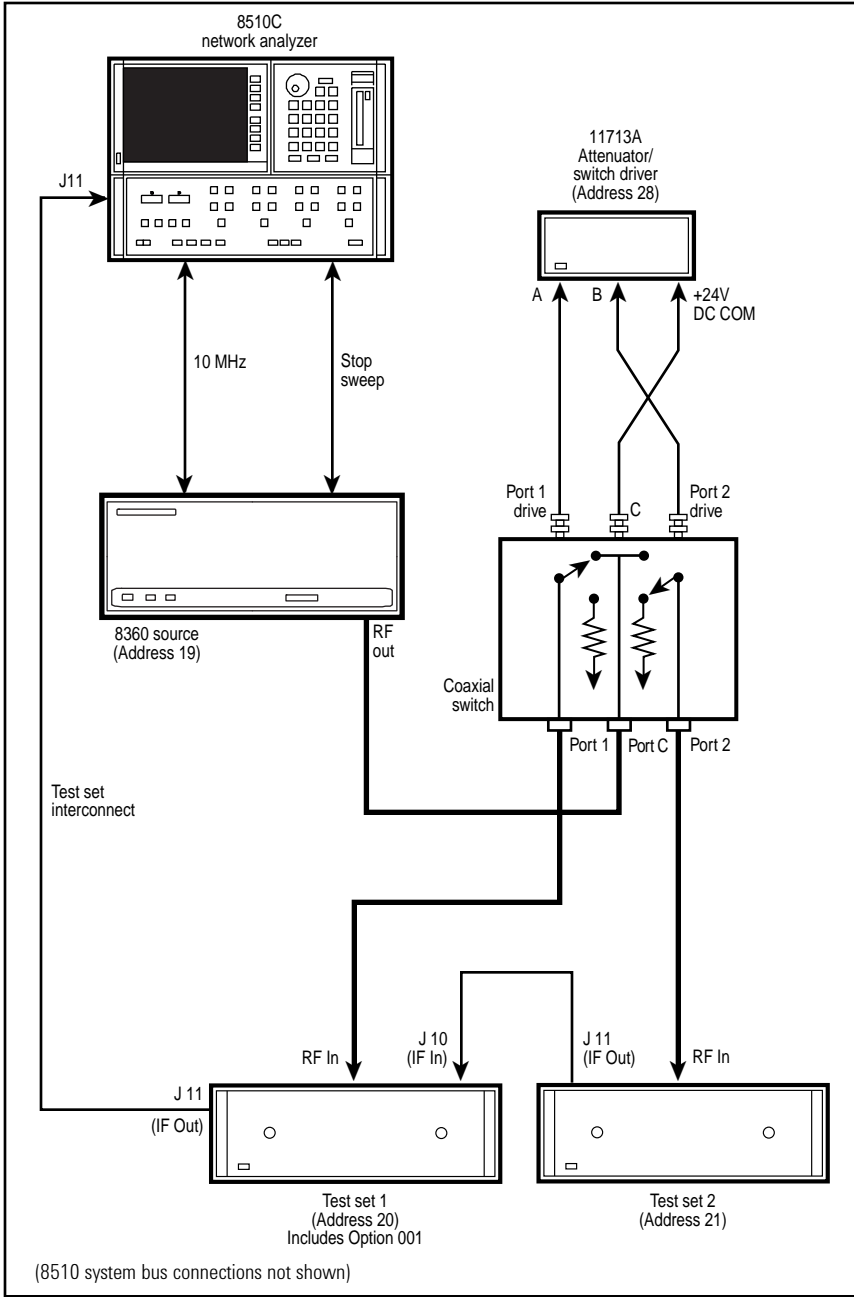
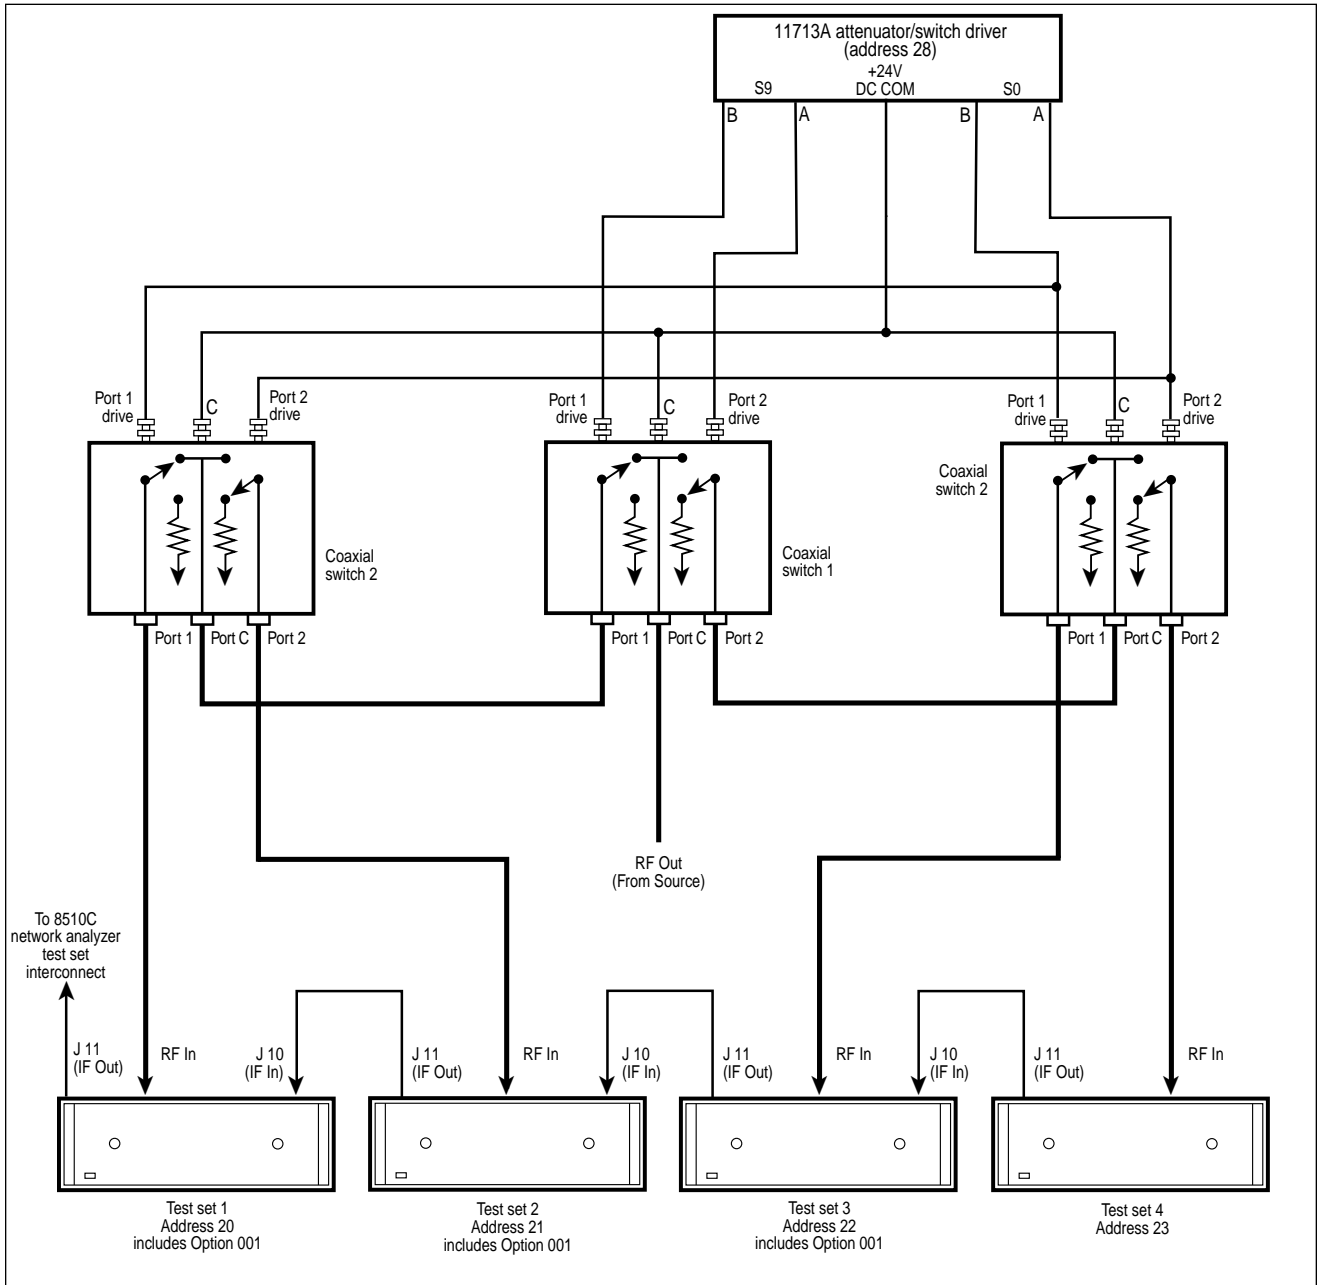

Figure 2. Agilent 8510 dual coaxial test set configuration
Figure 3. RF and IF switching with four test sets using three SPDT switches
5	Figure 2. Agilent 8510 dual coaxial test set configuration
6	Figure 3. RF and IF switching with four test sets using three SPDT switches
In this section we describe how the RF and IF signals are switched with multiple test sets in the system, beginning with two test sets (see Figure 2).
The dual test set configuration can be easily extended to include up to four test sets. Figure 3 shows the configuration with four test sets in the system. Note that more coaxial switches are required, and that all test sets must have Option 001 (IF switching), except the last one in the chain.
1. Connect the equipment as shown in Figure 2. If more than two test sets are used, see Figure 3. Be sure all instruments, including the test sets and the Agilent 11713A, are connected to the 8510 system interface.